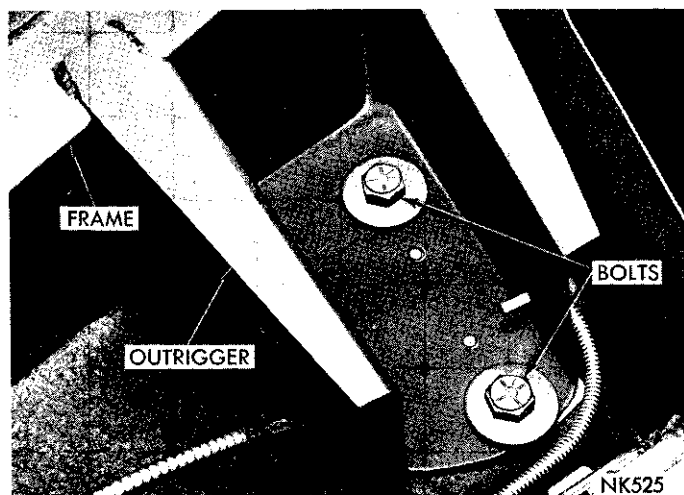

Fig. 4—Body to Frame Outrigger Mounting
(8) Position a hydraulic transmission jack under the frame rear crossmember and remove the frame to body bolts (Figs. 4, 5 or 6), and yoke to frame crossmember nuts and washers or spacers.
(9) Remove the frame assembly from the vehicle by lowering the front post and transmission jack slowly at the same speed.